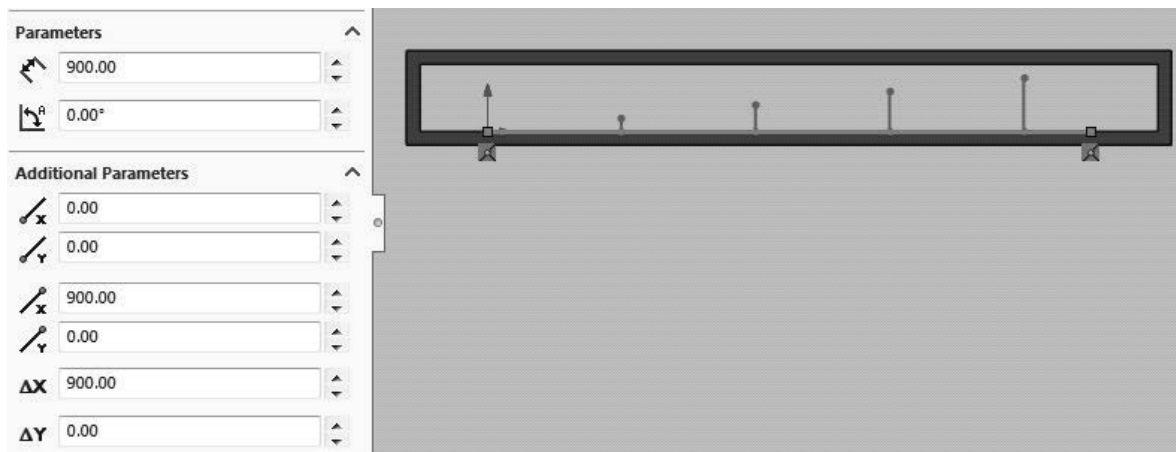

Figure 2.8 Sketch of a line in the X-direction
8. Click on the **Rebuild** symbol  in the SOLIDWORKS menu. Repeat step 6 and draw a horizontal line in the positive X-direction starting at the origin of the lower inner surface of the sketch. Set the **Parameters** and **Additional Parameters** to the values shown in figure 2.8 and close the **Line Properties** dialog and the **Insert Line** dialog. Click on the **Rebuild** symbol. Rename the sketch in the **FeatureManager design tree** and call it **x = 0 – 0.9 m**.